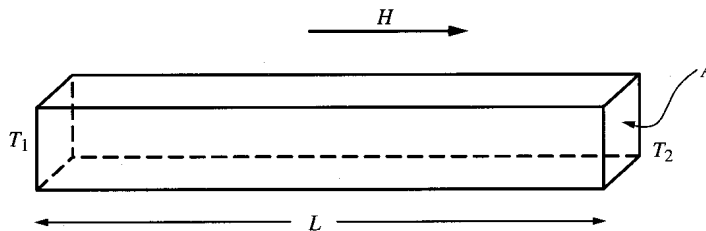

Fig. 17-1
In Chap. 15 we saw that heat is the nonmechanical transfer of energy. In examples we gave of objects at different temperatures being brought into contact, heat was transferred via the direct contact of more energetic, “hotter,” layers of molecules with less energetic, “cooler,” layers of molecules. This direct transfer of thermal energy from one layer of molecules to the next is called **heat conduction**. By definition, heat conduction is a nonequilibrium process, since it involves temperature differences between objects or between parts of a single object. The rate at which heat is conducted through an object is found to obey definite laws. Consider a bar of a uniform material of length L and cross-sectional area A , as shown in Fig. 17-1. Assume the two end faces are maintained at temperatures T_1 and T_2 , respectively, where T_1 is the higher temperature. We assume that the long sides of the bar are well insulated so that heat cannot leak out the sides. We also assume a “steady-state” situation where the heat conducted through any given cross section of the bar will be the same as at any other cross section so that there is no accumulation of thermal energy at any location in the bar. The amount of heat transferred per unit time, $H = \Delta Q / \Delta t$, across a given cross section of the bar is directly proportional to the temperature difference $T_1 - T_2$ and to the area A and is inversely proportional to the length L :
- (a) Assume that the bar in Fig. 17-1 is made of copper and that $A = 100 \text{ cm}^2$ and $L = 60 \text{ cm}$. Find H , the heat flowing per unit time, if $T_1 = 600 \text{ K}$ and $T_2 = 300 \text{ K}$.